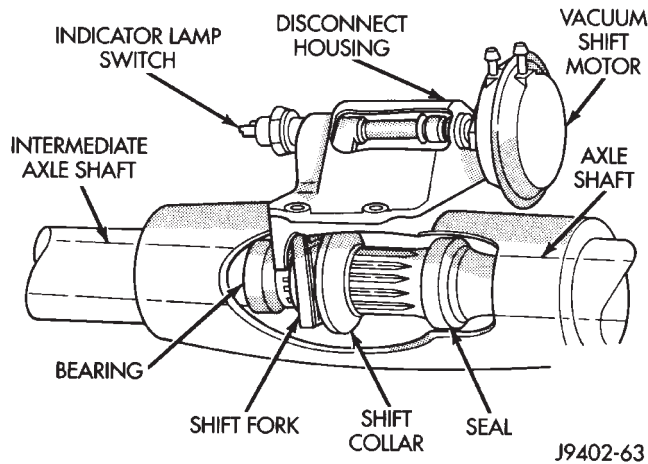

Fig. 17 Shift Motor Housing
(3) Remove the shift motor housing cover, gasket and shield from the housing (Fig. 17).